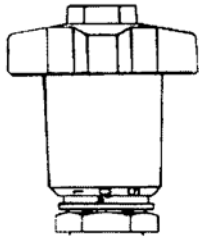
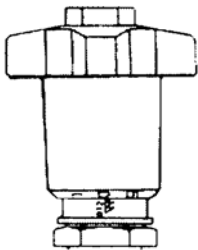

Figure 4 – With no arrows visible, the Inner Scale set at 0 on the indicator line aligned with the 0 on the Outer Scale; the valve is closed.
Figure 5 – Shows a valve setting of 2.0, indicating that the valve is partially open.
4.1 The valve operates from closed (Figure 4) to partially open (Figure 5) to fully open (Figure 6) by a counterclockwise rotation of the orange handwheel, using five 360° turns for the 2-1/2" and 3" valves, six turns for the 4", 5" and 6" valves, 12 turns for the 8" and 10" valves and 14 turns for the 12" valve. The position of the valve is indicated by two scales.